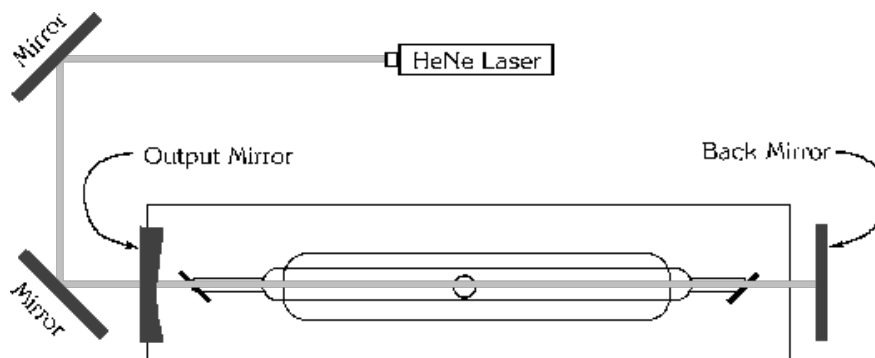

Figure 12: Alignment Configuration (note: diffraction grating not shown; it is between the back mirror and the right Brewster window)
3. Make sure the mirror closest to the HeNe laser is set up (it pivots out of the way in order to allow the CO2 laser light to enter the spectrometer. Then block off the back mirror with a piece of paper so that reflections don't confuse matters. See Figure 12 for a suggestion on the set-up. Also remove, with vinyl gloves on, very, very, very, carefully the output coupler mirror (labeled as output mirror below). To do this, remove the plastic panel above the output mirror. Then, with your gloves on, unscrew the mirror. Once you've removed it, set it on the optical table in a safe place, with the optics down (this prevents dust and other contamination from landing on it). **Note: Do not ever attempt to clean this optic mirror.** Finally, move the diffraction grating aside for now by disengaging the rubber band which holds it into place.